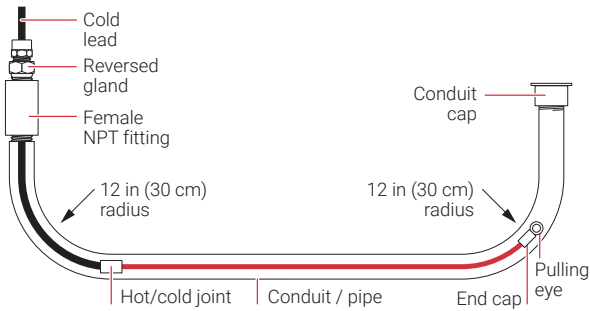

Figure 20: Typical conduit preparation
1. Prepare the conduits in accordance with Figure 20. The “stub up” at the far end from the power supply allows long runs of heating cable to be pulled into the conduit. Conduits should be finished on the far end with a male NPT thread to allow a cap to be installed. The power supply end should be terminated with suitably sized female NPT thread to allow the reversed gland supplied